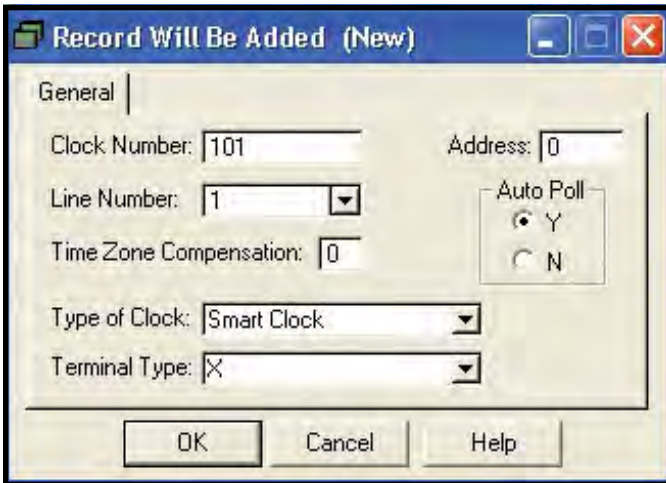

Figure 117. Out-of-the-Box™, Record Will Be Added window
- VIII. The "Record Will Be Added (New)" window will open. The following fields will have to be configured for modem use (see Figure 117):